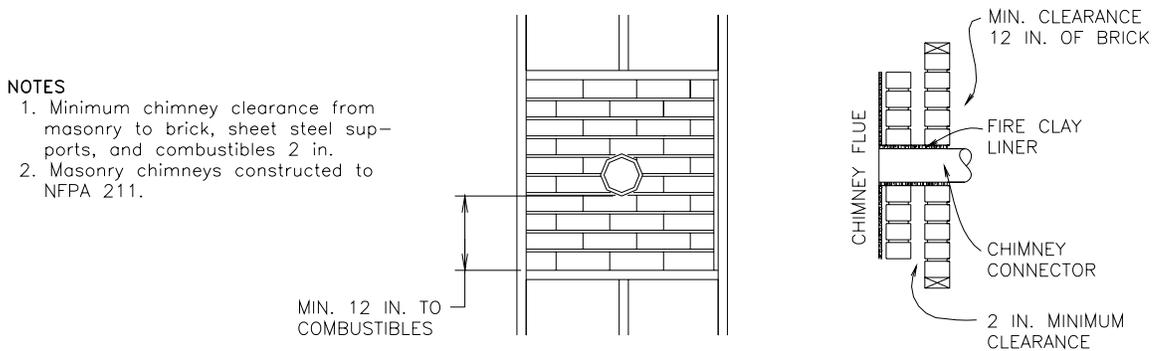
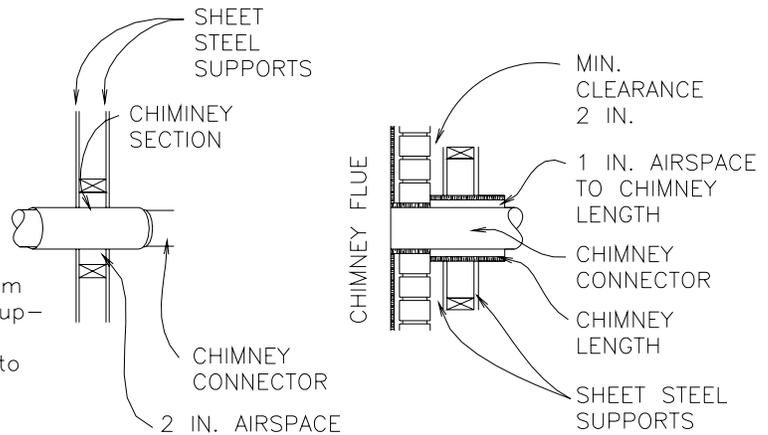

FIGURE 31: MASONRY CHIMNEY TO COMBUSTIBLE WALL
FIGURE 34: TYPE HT 2100⁰ FACTORY-BUILT CHIMNEY
Catalytic stove installations that require a connection from the stove through a combustible wall to a masonry or prefabricated chimney require either a UL Listed thimble (wall penetration assemblies) or the methods outlined in the National Fire Association Standard 211, which is outlined below. It is important that the homeowner or installer be well versed in these variations and understands which one is best suited for their application. The following diagrams provide examples and explanations of chimney connector systems and clearances from combustible walls for residential heating appliances. During any installation, it is important to consult with the local code authority or an installation professional to ensure your installation is properly done. The following additional requirements will apply to FIGURE 31 through FIGURE 34:
4. A connector to a masonry chimney, except for the installation shown in FIGURE 31, shall extend in one continuous piece through the wall pass-through system and the chimney wall to the inner face of the flue liner, but not beyond.